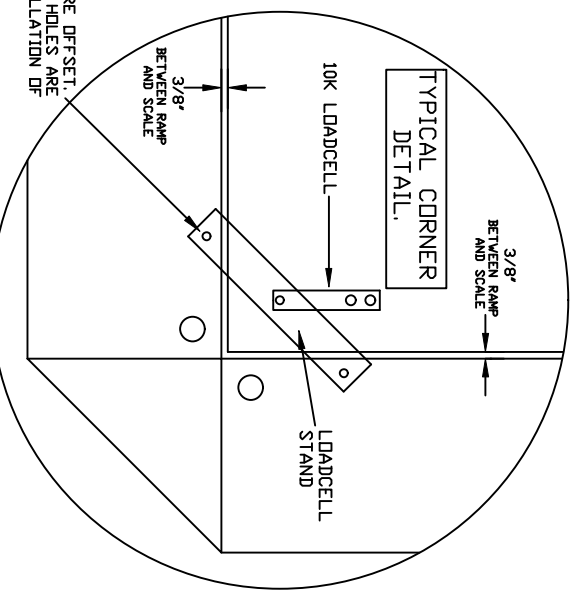
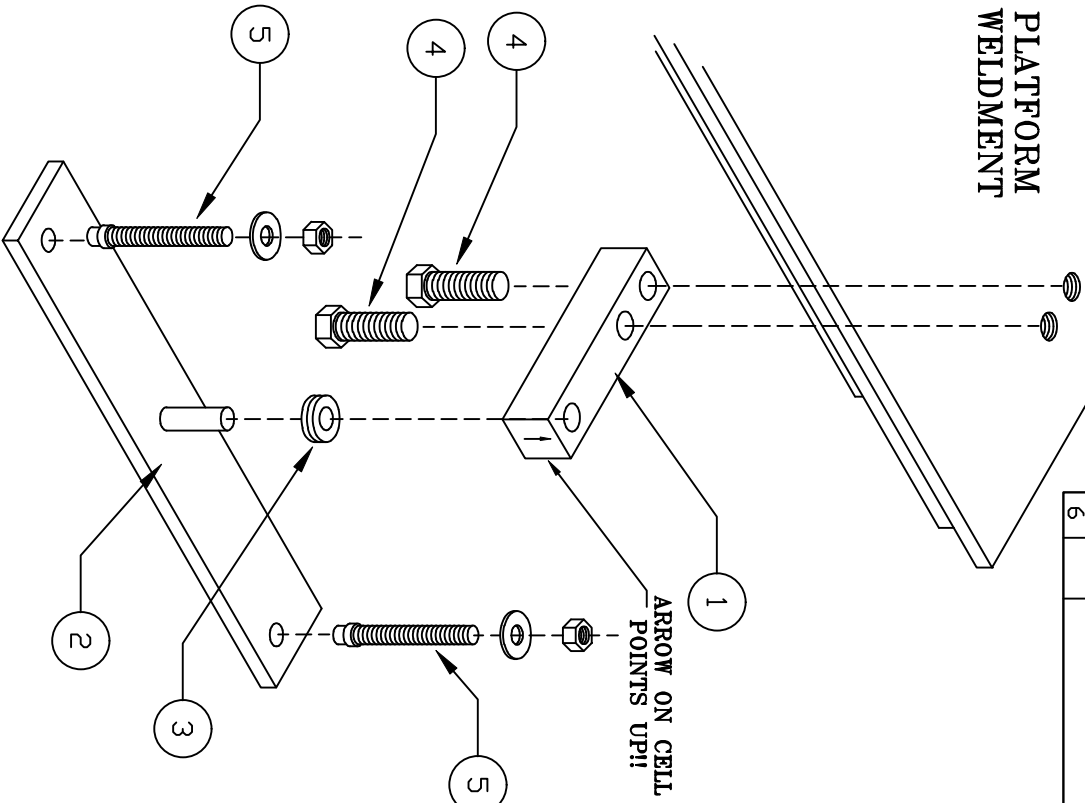

FIGURE 1
FIGURE 2 CORNER DETAIL
2. Refer to Figures 1, 2, and 3. Review the drawings carefully as they will help the installation procedure go smoothly without unexpected problems.
6. Connect six (6) load cells to summing junction box.
1. Choose an area of concrete where the scale is to be installed. The area should be level and free of debris. Be sure to install the scale so the traffic runs parallel to the center seam (see Figure 1).
2. Be sure to install Platform Weldment #1 first (See Fig. 1). With a forklift, raise Platform Weldment #1 to a comfortable working height.
3. Using load cells marked 1-4, match the load cells to their respective corners. The corner numbers are stamped into the deck plate between the bolting holes. Bolt each load cell into place **making sure that the arrow on the load cell is pointing up** (see Fig 2.). Securely tighten all bolts.
4. Using load cell stands and spherical washers provided, slide the spherical washers over the 5/8" diameter rod on the load cell stand (see Fig 2.). Make sure to put the concave washer on the bottom and the convex washer on the top.
5. Take one load cell stand (with spherical washers) and slide the 5/8" rod through the hole in the #1 load cell. Make sure the holes in the load cell stand are toward the outside to allow for the installation of the lag bolts. The load cell stand should run diagonally across each corner. Use some tape to temporarily hold the stand in place. Repeat for the remaining three (3) corners.
9. Drill holes into the concrete with  $\frac{1}{2}$ " concrete bit to anchor the load cell stands. Install and tighten all anchor bolts, **except the two near the center seam of the scale (see Fig 1).**
**CAUTION** In the two holes near the center seam (see Fig 1), **DO NOT** use the nuts or washers. Simply hammer the anchor bolt flush with the top of the load cell stand. This will ensure that the anchor bolt will not touch the bottom of Platform Weldment #2 when it is put in place.
1. One of the side ramps has two notches for the cables to exit (see Fig 1) allowing the cables to exit in the middle of the scale or at one of the corners.
2. Route all load cell cables around the perimeter of the platforms to a common exit point. Use the clips welded to the edge of the platforms to hold the wires off the ground. Use cable ties to secure the wires to the clips. Any excess cable can be stored under the triangular corner attachment of the ramps (see Fig 1).
1. Layout all eight ramps around the scale as shown in Figure 1.